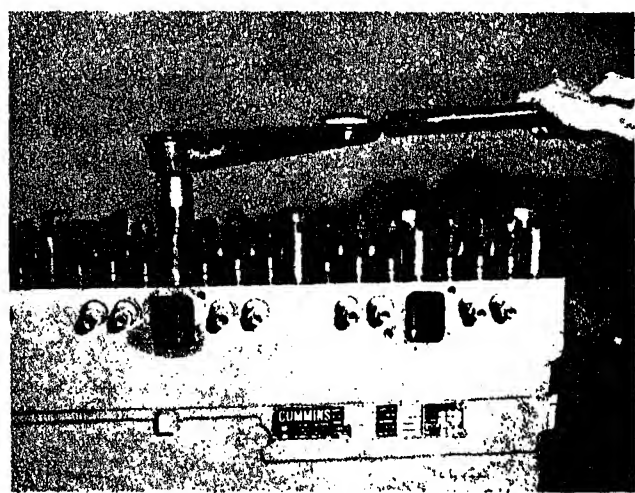

Fig. 14-1-47. Torquing cylinder head capscrews
7. Continue to tighten capscrews, in 100 ft. lbs. [13.8300 kg m] increments, to 300 ft. lbs. [41.4900 kg m] for $\frac{3}{4}$ in. [19.0600 mm] capscrews, or to 200 ft. lbs. [27.6600 kg m] for $\frac{1}{2}$ in. [12.7 mm] capscrews, Fig. 14-1-47.